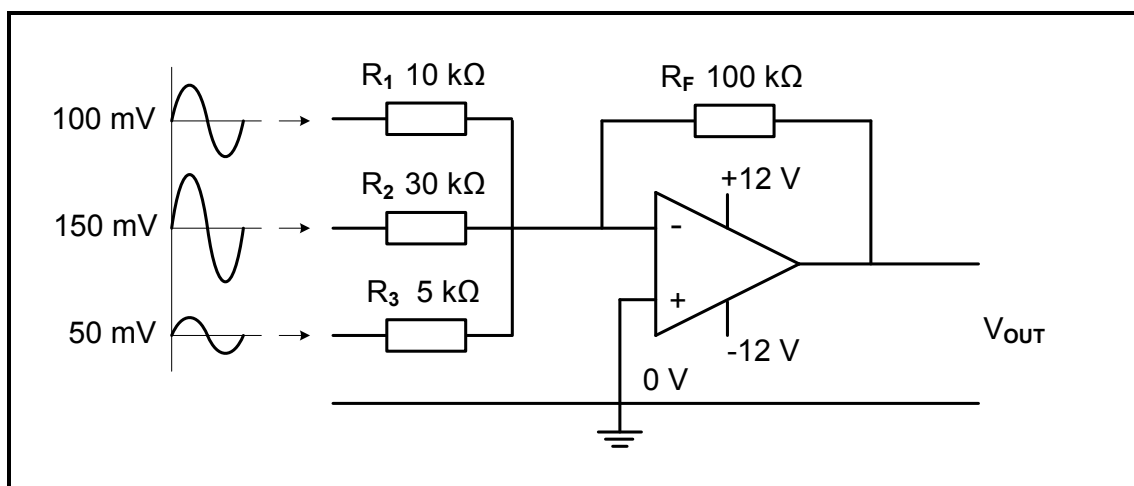

FIGURE 2.7: INVERTING SUMMING AMPLIFIER
- 2.7 Refer to FIGURE 2.7 below and answer the questions that follow.